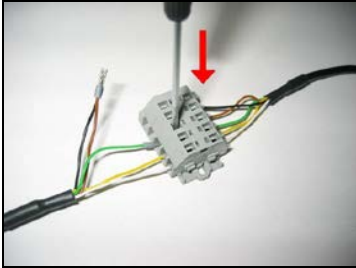

Figure 10: Connecting of the sensor cable and USB cable
2. To switch off a contact press the screw driver into the block as shown in **Figure 10**.